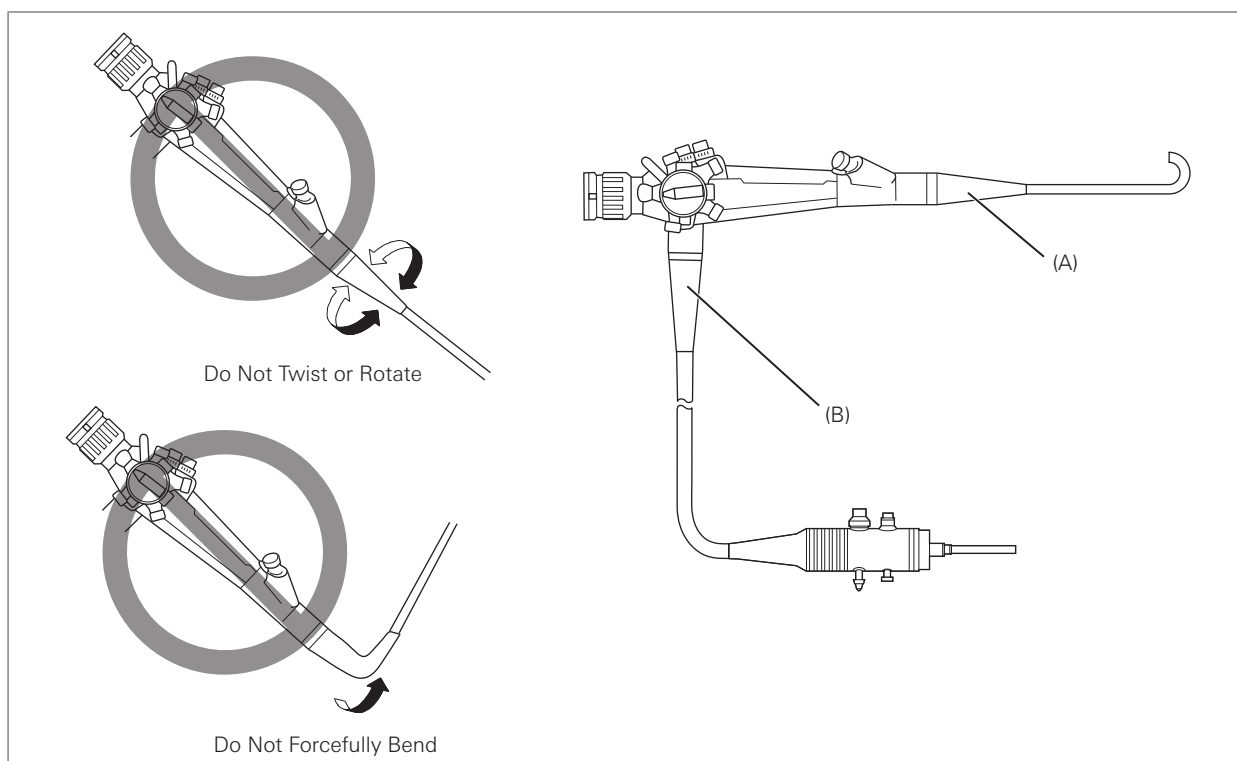

Figure 3.2
- Do NOT excessively twist, bend, or rotate any of the strain relief boots on the instrument (See Figure 3.2 (A) and 3.2 (B) to identify the strain relief boots). Doing so may result in instrument damage. Pay special attention to the careful handling of the strain relief boot of the insertion portion (See Figure 3.2 (A)) of the fiberscope, because it has a small diameter and is more likely to suffer damage due to mishandling.